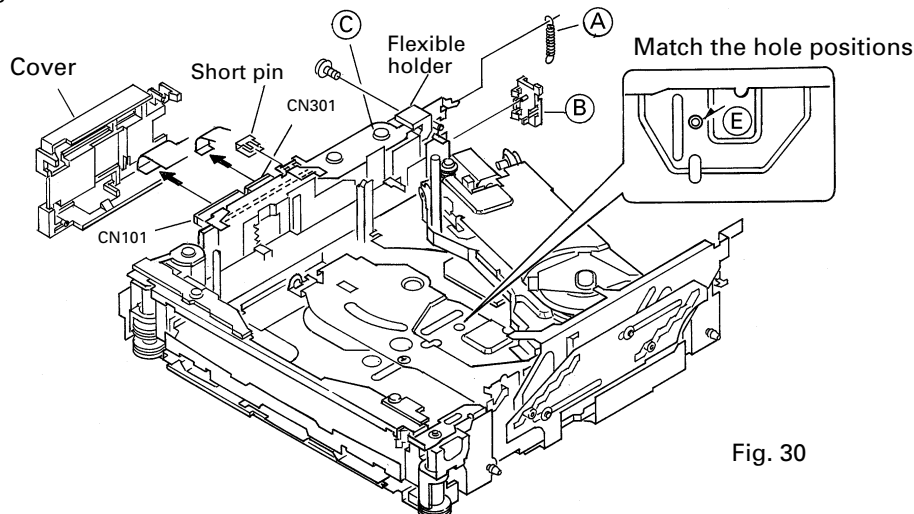

Fig. 30
1. Insert a short pin into the Pickup flexible PCB. (See Fig. 30)
Remove the Cover from the Servo unit. (See Fig. 30)
Disconnect the flexible PCBs from the connectors CN101 and CN301. (See Fig. 30)
1. Insert a short pin into the flexible PCB of the Pickup unit.(See Fig. 30)
- Remove the Carriage mech assy. (See Fig. 30 and 31)